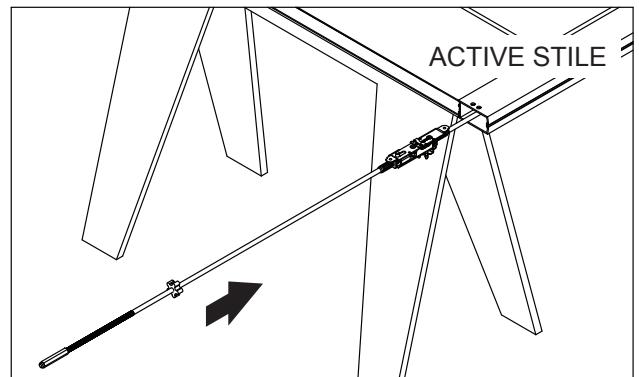

FIG. 9
1. Insert the panic device rod and case assembly into active stile. (Fig. 9)